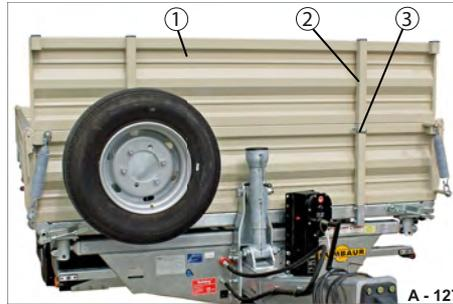
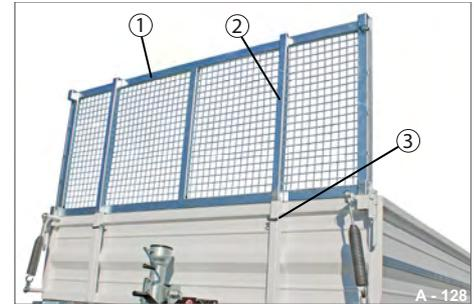
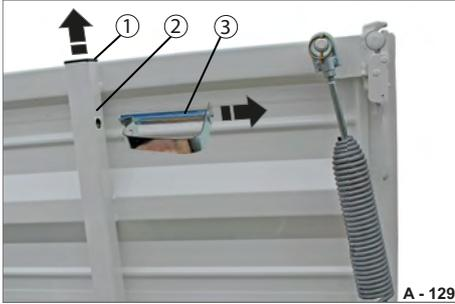
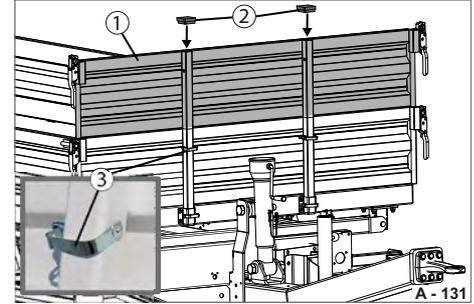

Fig. 133 Front platform gate attachment
Fig. 134 Front platform gate attachment
Fig. 135 Preparing installation
Fig. 137 Front platform gate attachment secured
- ▶ Remove the caps (Fig. 135/1) from the posts (Fig. 135/2).
- ▶ Remove the spring cotter stud (Fig. 135/3) if necessary.
- ▶ Insert the front platform gate attachment (Fig. 133/1 & Fig. 134/1) into the posts of the base platform gate (Fig. 135/2).
- ▶ Insert the caps (Fig. 137/2) into the side posts (Fig. 135/2) of the front platform gate attachment. The front platform gate attachment is secured.